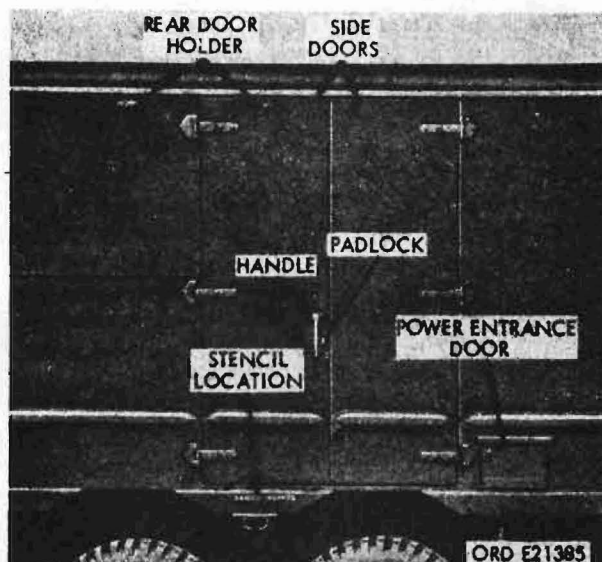
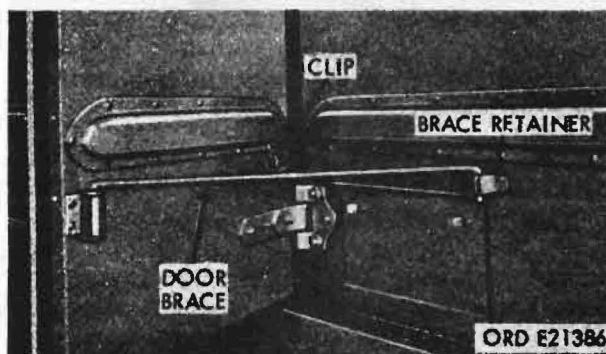

Figure 139. Side door assemblies
Figure 140. Front side door brace and retainer
b. Rear Side Door. The rearward side door (fig. 139) is equipped with an outside handle, lock assembly, and two inside lock latches, one at top, and one at the bottom of the door. To open the door, turn the door handle to a horizontal position. The
outside handle may be secured in the closed position with a padlock. The rear side door can be swung fully open and held against the body of the rear door holder (fig. 139). To lock the door, close door, and turn the outside handle to a vertical position.
c. Front Side Door. The forward side door (fig. 139) is equipped with two "slam action" latches, an upper latch which includes a rod and guide assembly, and a lower latch. To open the door, pull down the ring on the upper latch rod and lift up the lower latch. The front side door can be opened about 120 degrees and retained in position (fig. 140) by disengaging the door brace from the clip on the right side of the door and inserting the forward end of the brace in the brace retainer, on the van body, just above the power entrance door.
d. Power Entrance Door. The power entrance door (fig. 139) is opened by grasping the knurled portion of both door latches and turning the latches one-quarter turn counterclockwise, allowing the door to swing outward